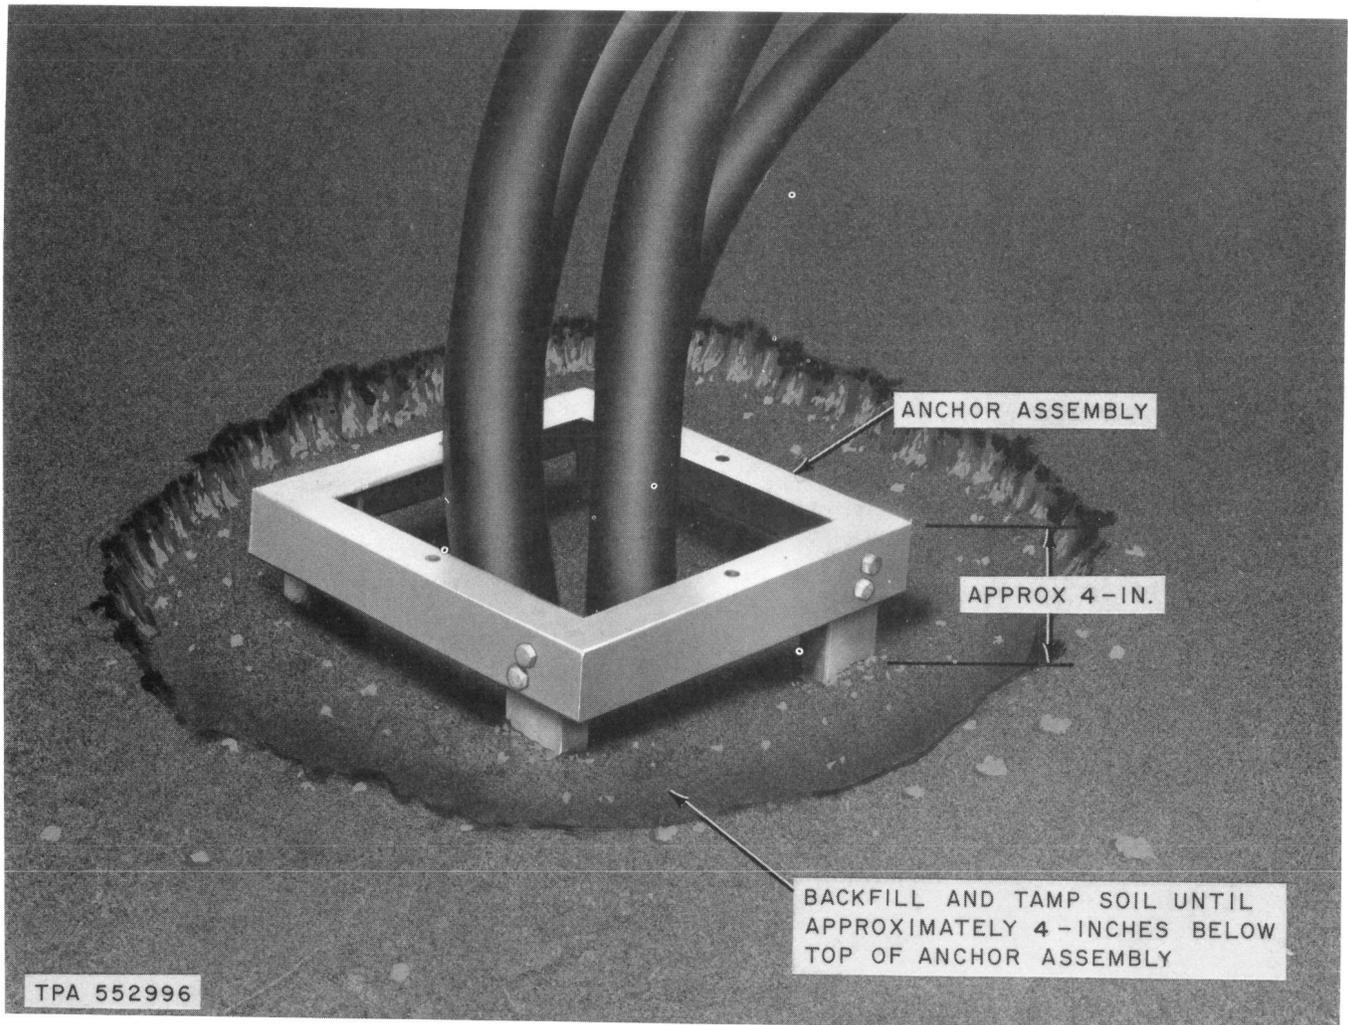

Fig. 4—Back Filled Excavation
4.05 Position the feeder and distribution cables to be terminated in line with their respective feeder and distribution panels and with appropriate nipples on grommet, backfill and *tamp* the soil in place until it is approximately four inches below top of anchor assembly (Fig. 4). This will make the 38Y-4045-1 foundation extended about two inches above grade and the 38Y-4045-2 about one inch